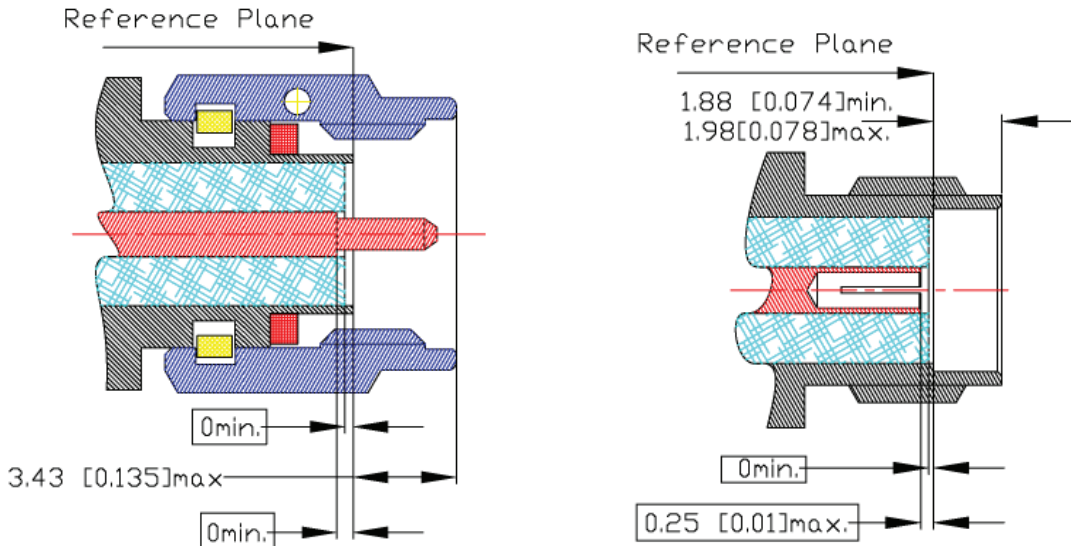

Figure 1
2. Refer to Figure 1 showing an example of the dimensions that need to be checked at connectors